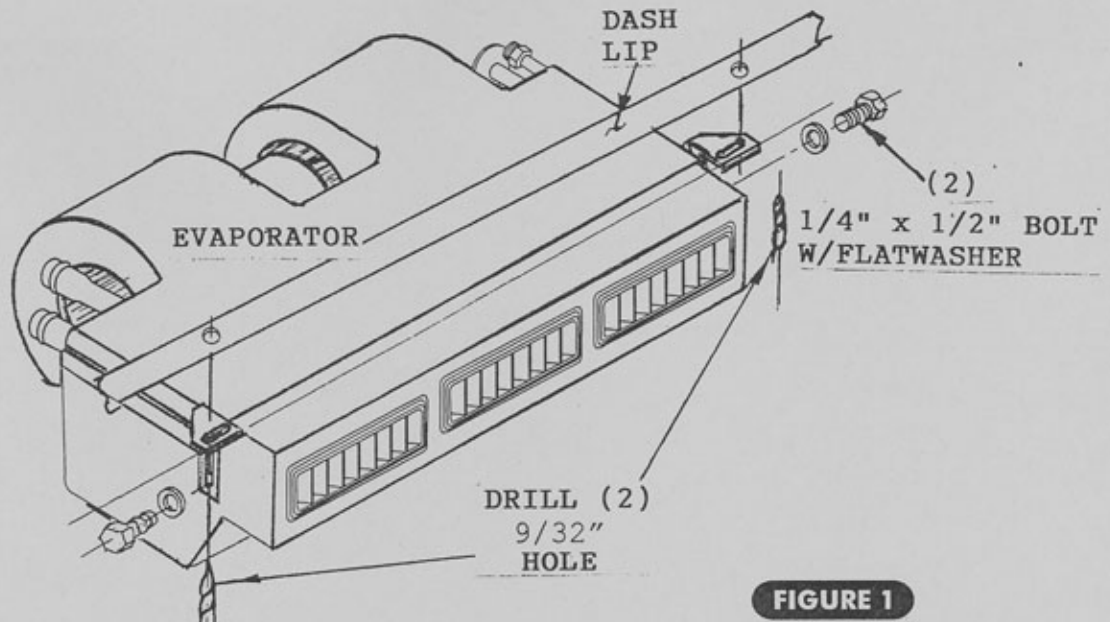

FIGURE 1
2. Drill (2) 9/32" holes under the dash lip with evaporator brackets attached to evaporator as Figure 1 shows.